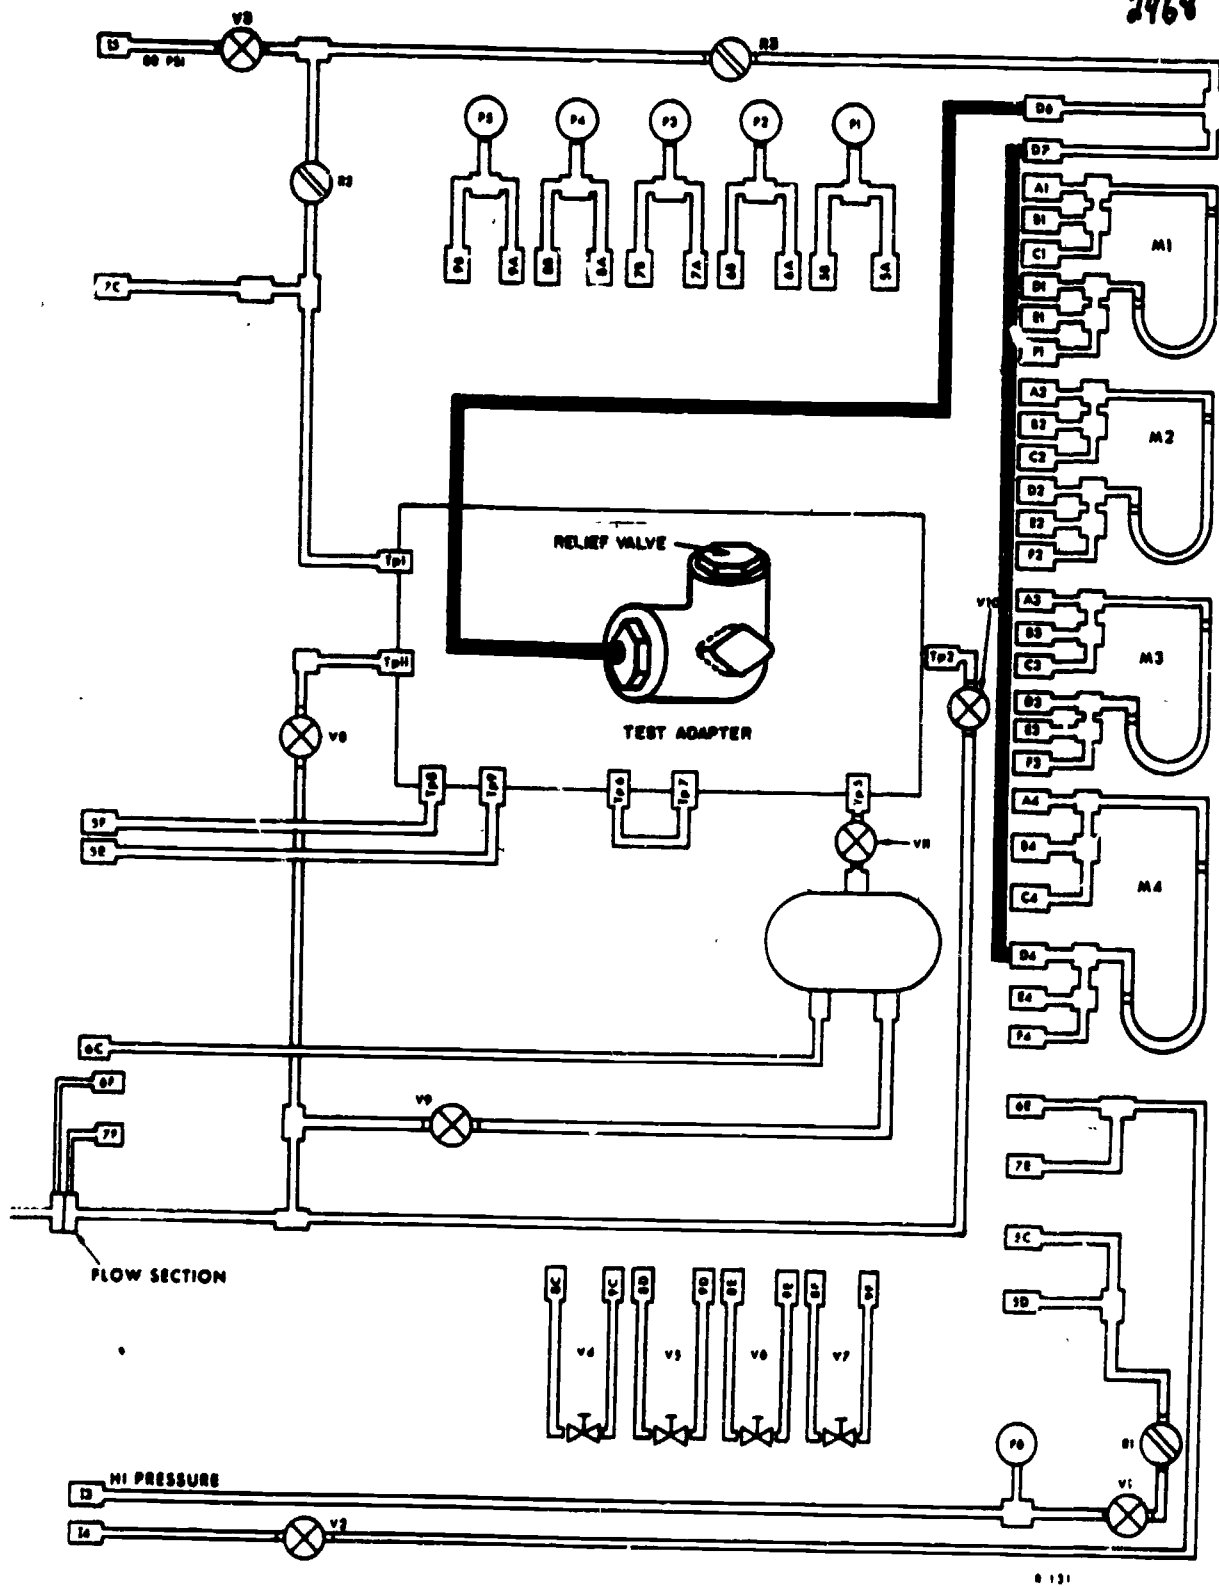

Figure 3. First Stage Relief Valve Test Hook-up Electrical-Pneumatic Trainer (Schematic).
5. Refer to figure 3 of this workbook. Connect the test adapter to the trainer as illustrated. Use the air hoses located on the bottom of the trainer to make the connections.